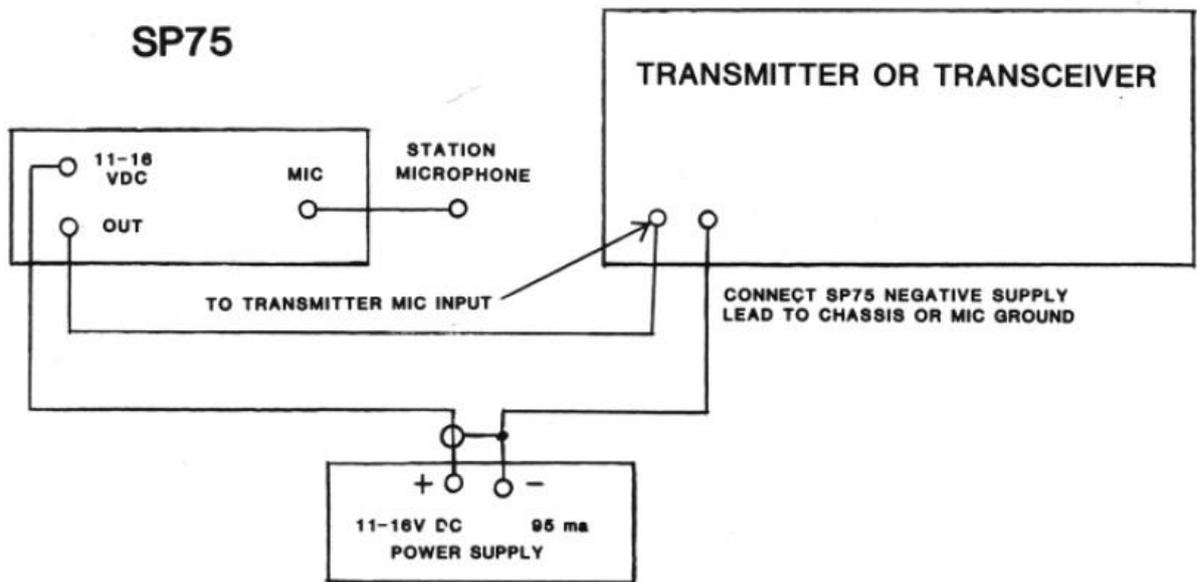

Figure 2 Connecting SP75 to Systems Other Than TR7 and PS7
- Fig. 2 Conectando SP75 a sistemas que no sean TR7 y PS7